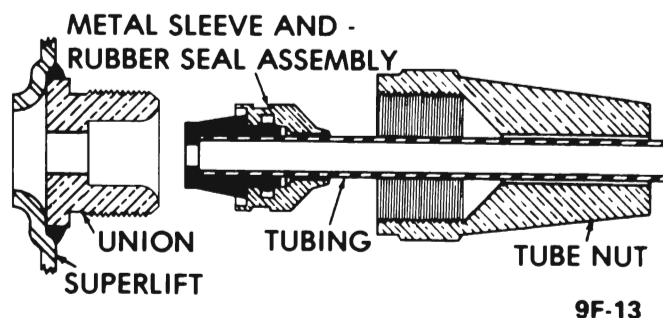

Figure 9F-8 Fitting Nut and Seal
1. Preassemble metal sleeve and rubber seal. See Figure 9F-8.